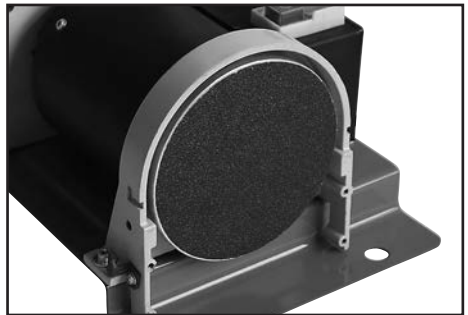

FIG.11
9.4 REPLACING THE SANDING DISC - FIG. 11